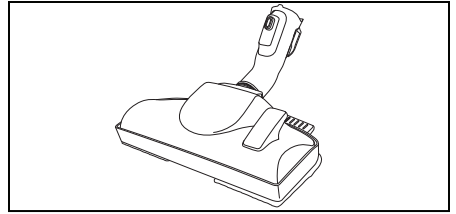

Fig. 1
- Ideal for mopping, polishing and vacuuming in one easy step (Fig. 1).